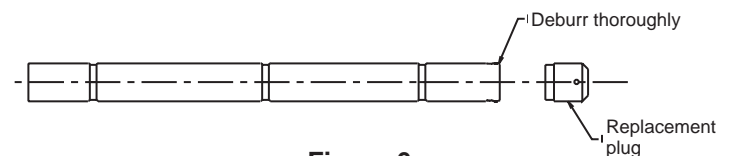

Figure 6
- c. Cut inner conductor at marked position using miter box and hacksaw. Remove burrs from inside and outside of conductor, Figure 6.